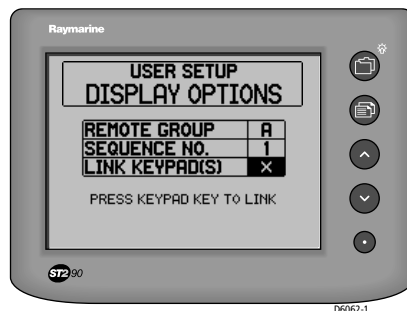

Figure 2-20: Remote control setup
The remote control setup page (see *Figure 2-20*) enables you to define the remote group, the sequence within the remote group and the associated Remote Keypad(s), for an instrument.
1. With the remote setup page displayed (*Figure 2-20*), use the ▲ or ▼ button to highlight the REMOTE GROUP field. This enables you to allocate the instrument as part of a remotely controlled group
9. Use the ▲ or ▼ button to highlight the LINK KEYPAD(S) field. This enables you to define which Remote Keypad(s) you want to use to control the instrument. If a Remote Keypad is not already allocated, ✕ is displayed.
10. At each Remote Keypad you want to use to control this instrument, press any button on, to link the instrument and keypad. Once a link is created, a ✓ is displayed against the LINK KEYPAD(S) field.